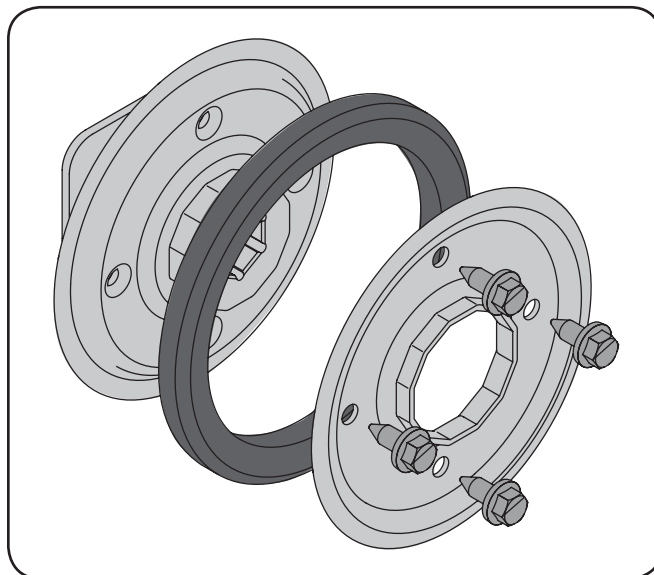

Figure 7-11
1. Remove the four screws which secure the friction wheel's side plates together. See Fig. 7-11.